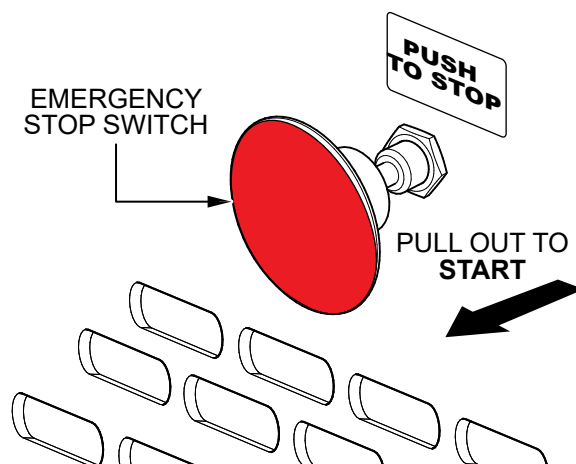

Figure 20. Emergency Stop Switch (START Position)
4. Locate the emergency stop switch (Figure 20) on the engine cover. Pull this button outward to allow engine starting.